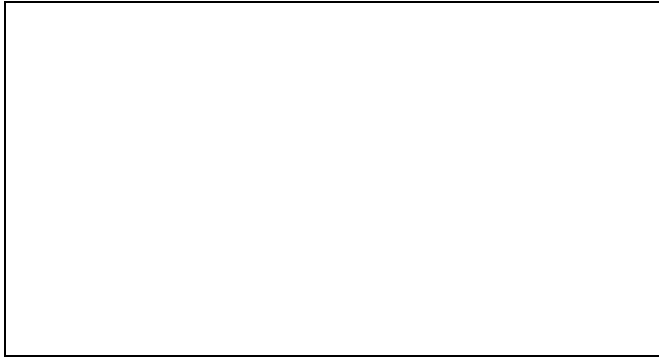

Figure 12.10: Cleaning a T-shaped intersection
5. Click on the wall line to trim to (see Figure 12.10). The intersection is cleaned.